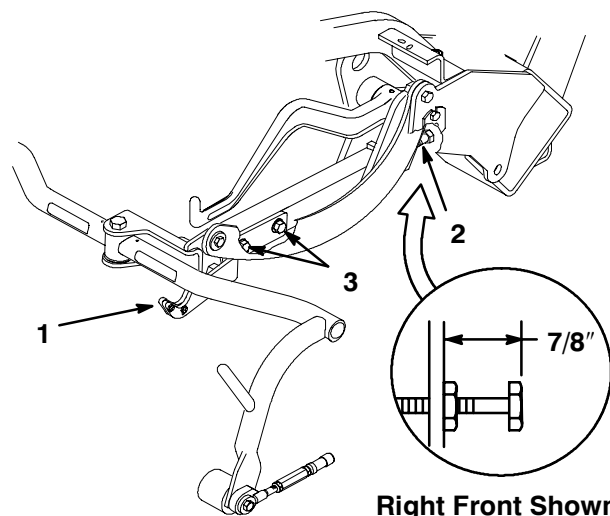

Figure 14
Check the transport height (Fig. 14) and adjust, if required, as follows:
2. Verify that the distance from the top of the carrier frame adjusting screw (Fig. 14) and the back of the carrier frame is 7/8".
3. Loosen the transport plate mounting screws (Fig. 14).
6. If the carrier frames are not at the same height, loosen the jam nut on the carrier frame adjusting screw (Fig. 14). Rotate the screw outward to raise and inward to lower. Tighten the jam nut after the proper height is obtained.